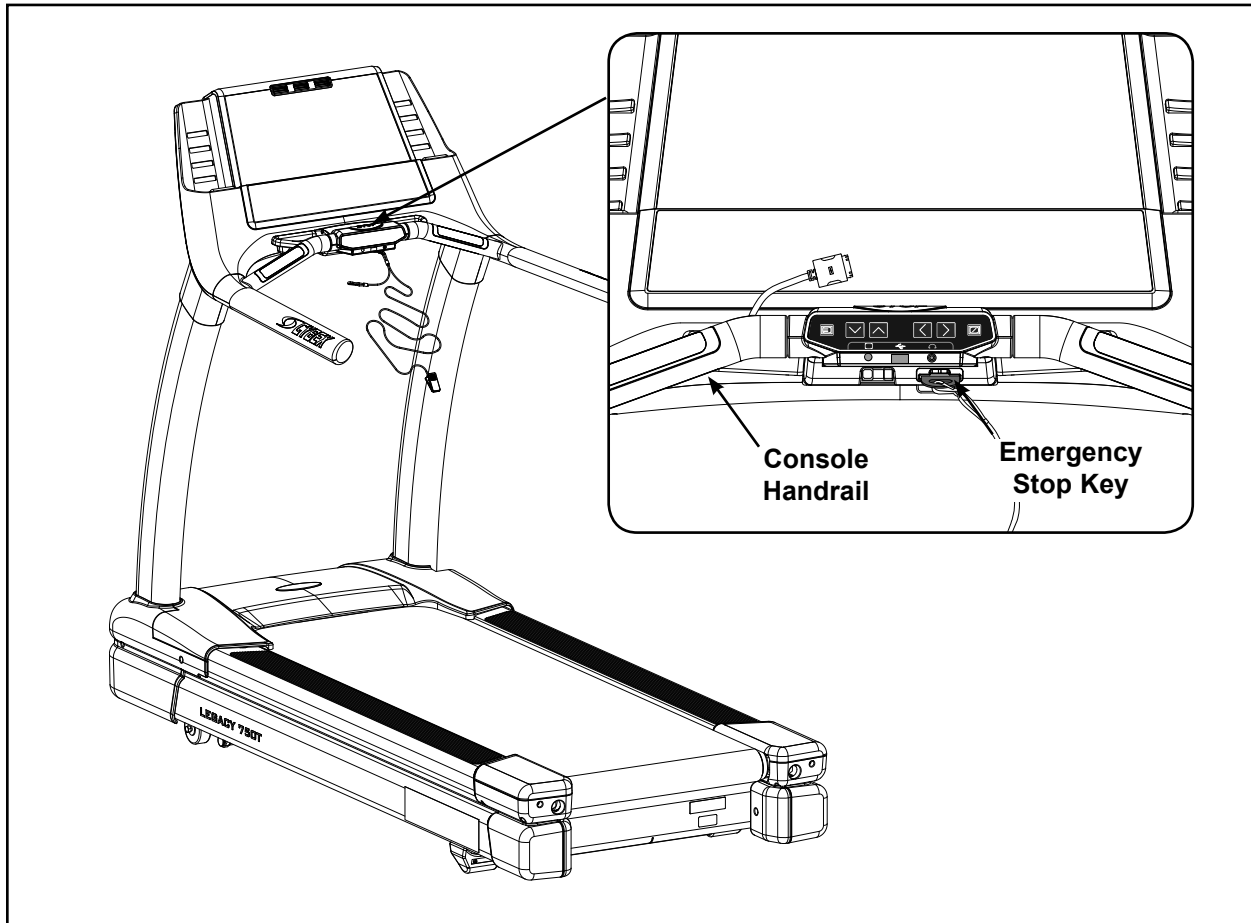

Figure 12
- A. Confirm that the emergency stop key is in place in the bottom of the console handrail. See Figure 12. **NOTE:** *The treadmill will not run without the key in place.*